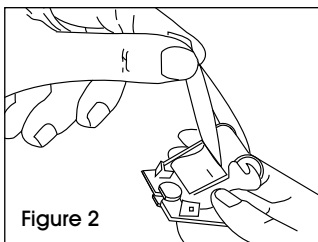

Figure 2
2. Insert folded backing paper between ink roller and carrier. Pull to snap old ink roller free. (See Figure 2)